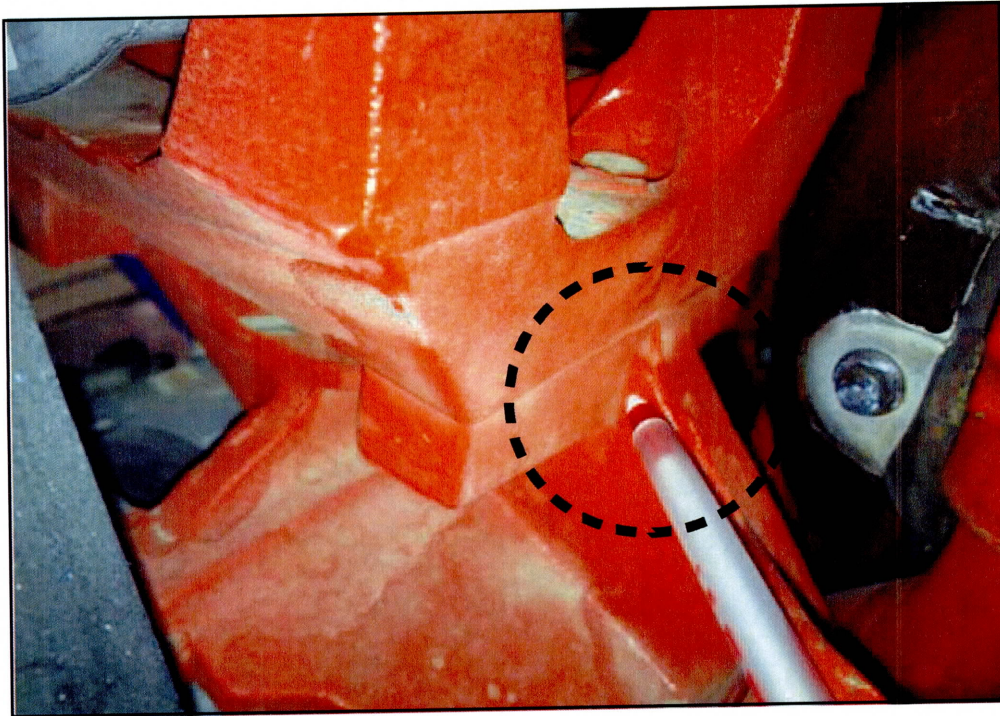

Figure 1. Visual inspection location.
5. Perform a visual inspection of the Cummins ISX alternator brackets in the location shown in Figure 1.